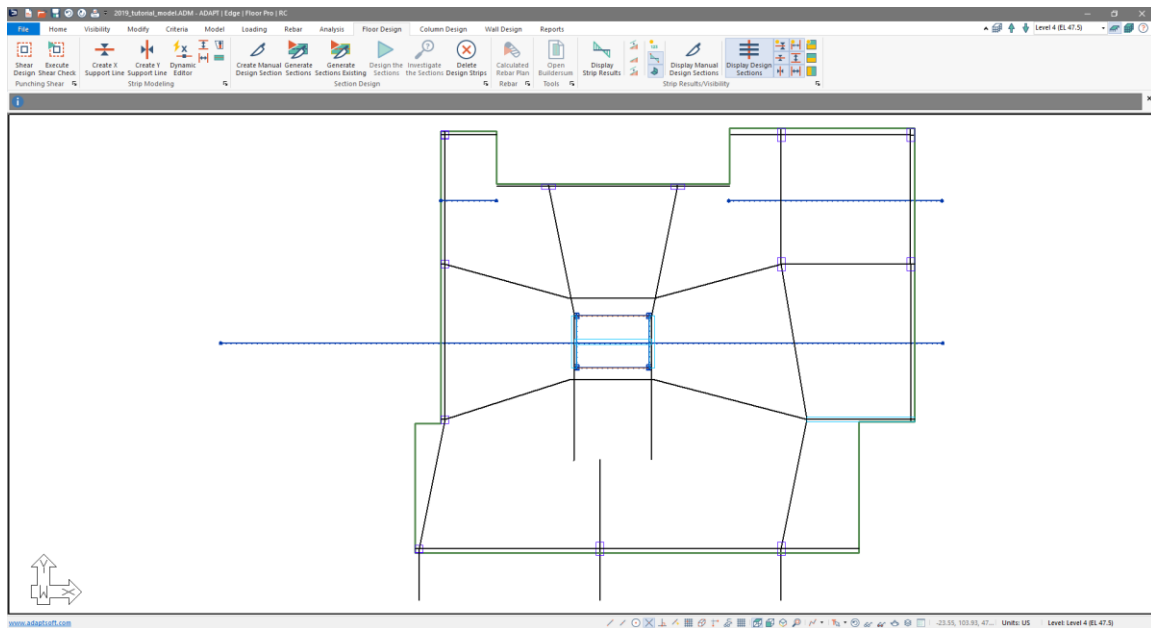

Figure 10-6
- The user's support lines in the upper left corner should be similar to those shown in **FIGURE 10-6**.